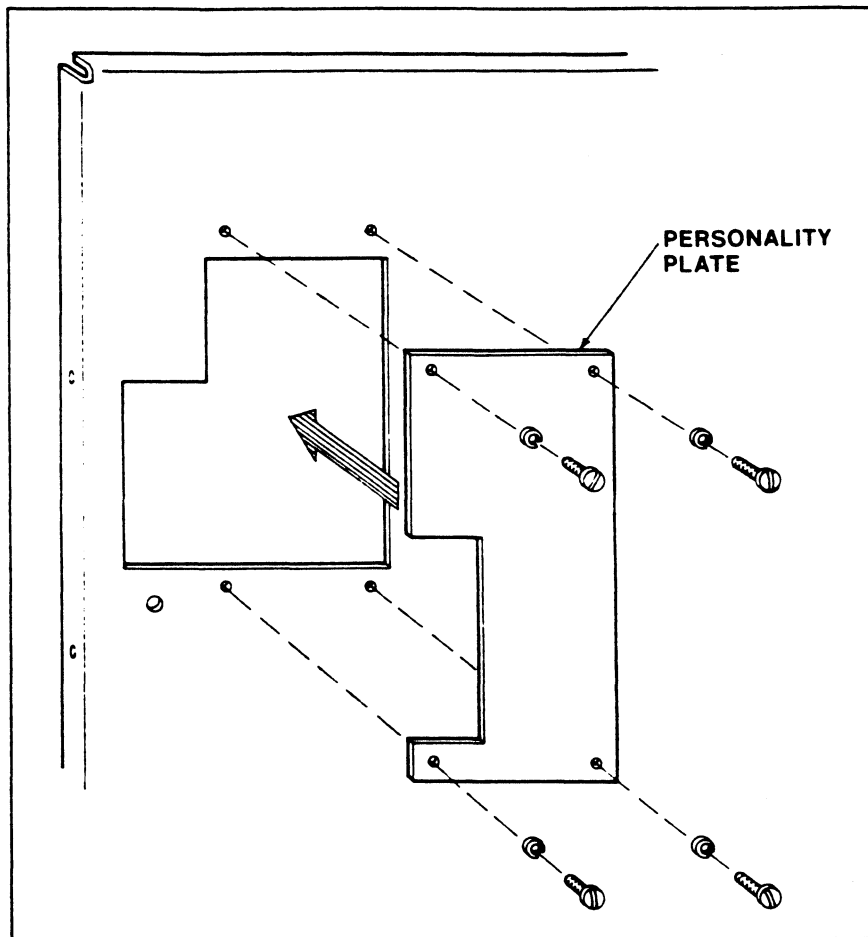

Figure 2-6 Installation of Personality Plate
8. Install the module personality plate to the rear of the terminal (see Figure 2-6).